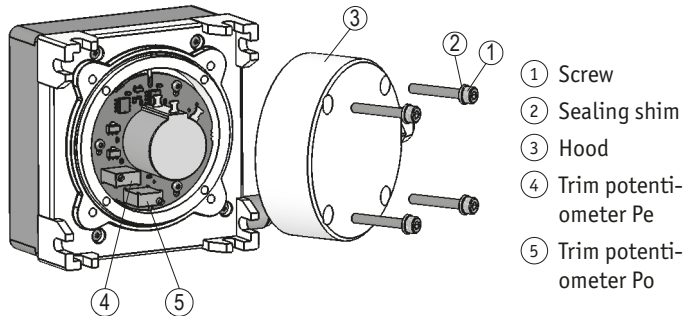

Fig. 13: Setting up the trim potentiometers MWI
Setting the instrument transformer (Fig. 13)
Via two trim potentiometers Pe ④ and Po ⑤ (see Fig. 13), these values can be adjusted to the application's actual start and end position.
1. Undo screws ① with sealing shims ② and open the hood ③.
2. Adjust the trim potentiometers Pe ④ and Po ⑤, see alignment.
3. Close the hood ③ and fasten with sealing shims ② and screws ①.